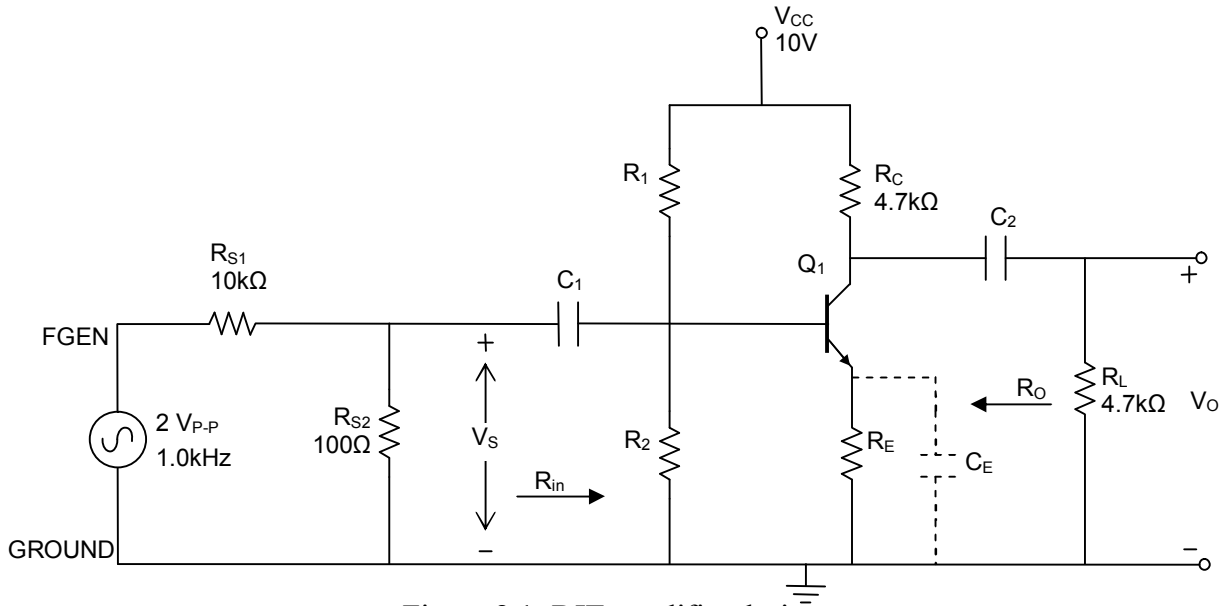

Figure 8.1: BJT amplifier design
3. Design the CE amplifier shown in Figure 8.1 to drive a  $4.7\text{k}\Omega$  load using an npn silicon transistor and a power supply voltage of  $V_{CC} = 10\text{ V}$  and  $R_L = R_C$ . The voltage gain of your circuit is to be  $A_V = -10$ . You should have already used the curve tracer to determine the  $\beta$  and  $V_{BE}$  of the transistor you have selected. Your design should include the specification of  $R_1$ ,  $R_2$ ,  $R_C$ ,  $R_E$ ,  $R_O$ ,  $V_{CEQ}$ ,  $I_{CQ}$ ,  $h_{ie}$ , and  $h_{ib}$ . **In this part of the experiment,  $C_E$  is not used.** You must design your amplifier for maximum symmetrical output swing. **See Design Procedure following this section for the equations needed for your design.** Assume that all coupling capacitors are large enough to pass your signal at 1kHz (i.e.  $22\mu\text{F}$  or greater). Assume  $R_C = R_L$  for your first design.
- b. **Build the circuit in Figure 8.1 but without  $R_{S1}$ ,  $R_{S2}$ ,  $R_L$ , the capacitors, and function generator**, as was illustrated in Figure 7.2. **Use the resistance values you determined in your pre-lab and set  $R_C = 4.7 \text{ K}\Omega$** . You should use the nearest standard resistance values for the resistors  $R_1$ ,  $R_2$ , and  $R_E$ , even if the design values are non-standard. Attempt to build your circuit using standard values of resistors before you resort to using the decade resistance boxes.
- a. Connect  $R_{S1}$ ,  $R_{S2}$ ,  $R_L$ , the capacitors, and the function generator to your circuit, as in Figure 8.1. The coupling capacitors need to be large enough to pass an ac signal of 1 KHz (22 $\mu\text{F}$  or greater). In Figure 8.1, the voltage divider using  $R_{S1}$  and  $R_{S2}$  is an easy way to keep the input voltage swing low enough to keep the transistor from being driven into either saturation or cut-off. After you have built the circuit, check your input and output wave shapes. Take appropriate action if your output wave shape is distorted from a sine wave.
2. Build circuit in Figure 8.1 using resistors calculated in your design.